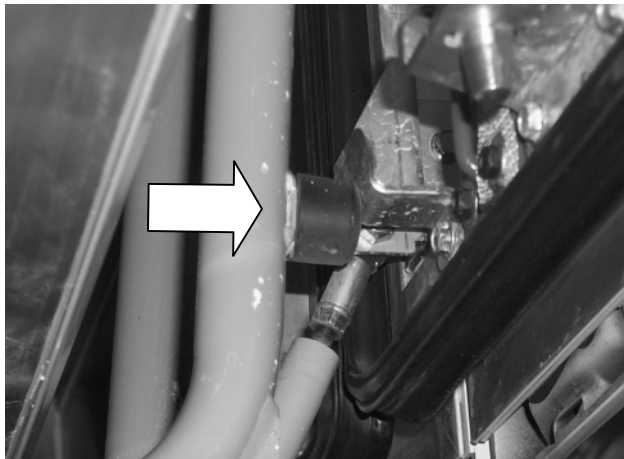

Figure 4: Door stop
- 2) Lower the door until there is sufficient room to remove the J-link to door stops (refer to Figure 4).